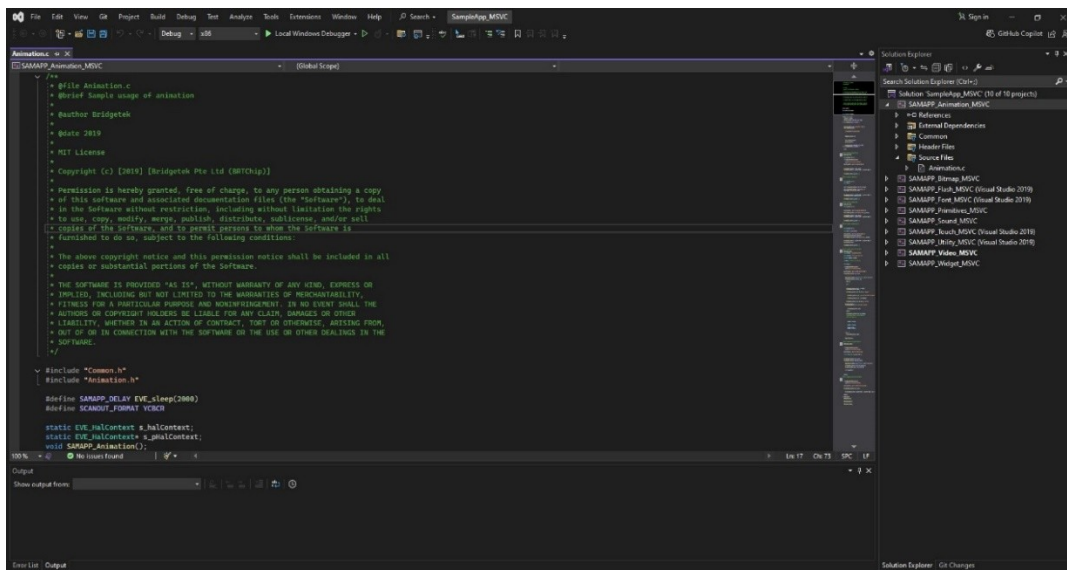

Figure 15 - Running SampleApp_MSVC.sln in Visual Studio
3. Launch the sample application **SampleApp_MSVC.sln** located in the SampleApp folder. Figure 15 shows SampleApp_MSVC.sln running in Visual Studio.